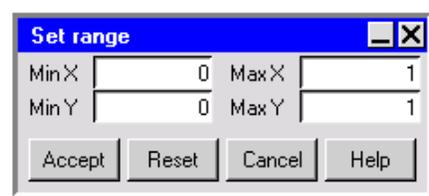

Figure 9.10.6: The Set range Panel
- To set the minimum and maximum values for the scales on the axes, click on **Set range**. This will open the **Set range** panel (Figure 9.10.6).